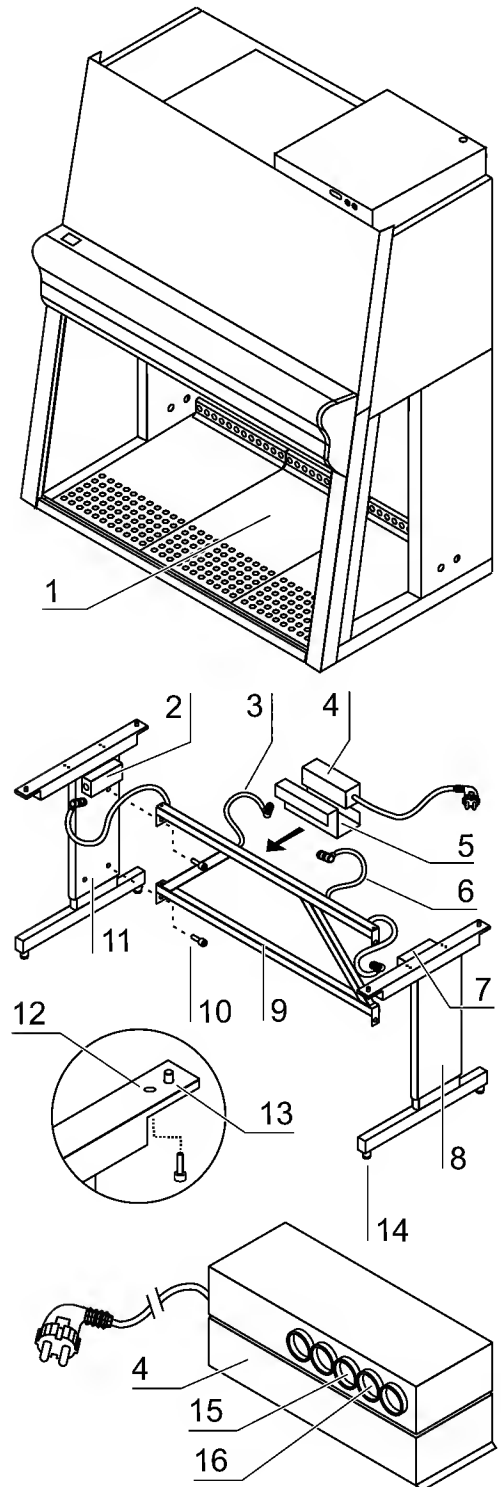

Fig. 1
**Fig. 1:** The height of the height-adjustable rack can be set within a range of 680-880 mm. Both sidemembers [6] have their own electromagnetic drive [2] that is controlled by the synchronizer module [4]
1. **Fig. 1:** Secure the two sidemembers [8] and [11] to the crossmember [9] using the screws [10].